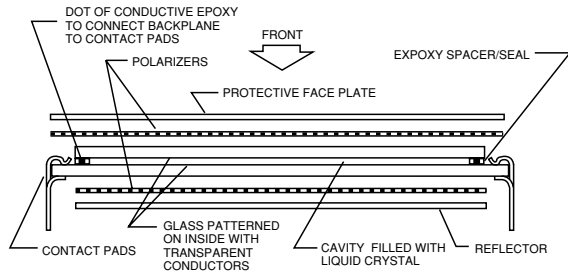
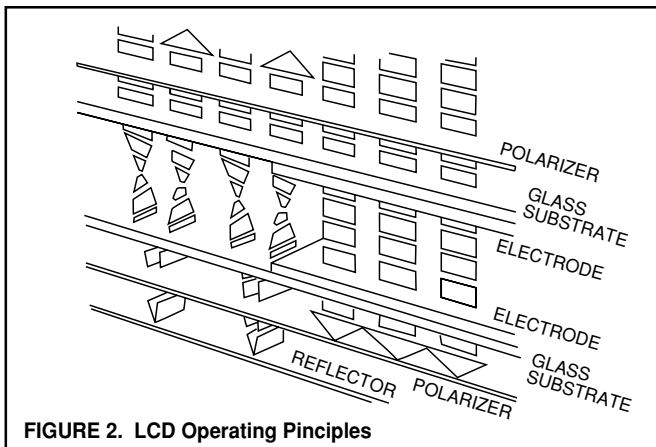

FIGURE 1. LCD Cross-Section
FIGURE 2. LCD Operating Principles
**DISPLAY CONSTRUCTION AND OPERATION** - The best description of liquid crystal is that is an ordered fluid of a class called nematic. Nematic fluids of the type used for liquid crystal displays consist of cigar-shaped organic molecules with the long axis of each molecule pointing in the same direction. The display cell is constructed from two pieces of glass coated on the inner side with transparent indium oxide conductors, as shown in Fig. 1. Each of the transparent conductors on the inside of the larger rear glass piece is shaped to form the individual segments of the display and are terminated on individual contact pads. The single conductor on the inside of the front glass piece is shaped so as to be common to all the segments on the rear glass. Traditionally this common conductor is usually referred to as the "back plane". The common back plane is connected to the two left most (viewed from the front) contact pads by a small dot of conductive epoxy imbedded in the spacer/seal. The glass surfaces are also specially treated to align the liquid crystal molecules in a particular direction. Alignment is parallel to the plane of the glass, with the alignment direction of the top rotated 90° relative to the alignment of the bottom plate. This causes the cigar-shaped liquid crystal molecules in the cell to assume a twisted orientation, when viewed from top to bottom. As shown in Fig. 2, the plane of polarization of polarized light will follow this twist and emerge from the cell rotated 90°. Thus, when the cell is placed between crossed polarizers, the polarizers will transmit light. When an electric field is applied to the transparent conductors on the inside of the glass cell, the liquid crystal molecules will physically move and reorient themselves parallel to the field. The 90° twist is then destroyed, and that portion of the cell between the conductors will appear dark. Conversely, when the cell is placed between parallel polarizers light cannot be transmitted and the entire display will appear dark. When the electric field is then applied the segments formed by the transparent conductors will then appear light against a dark ground.